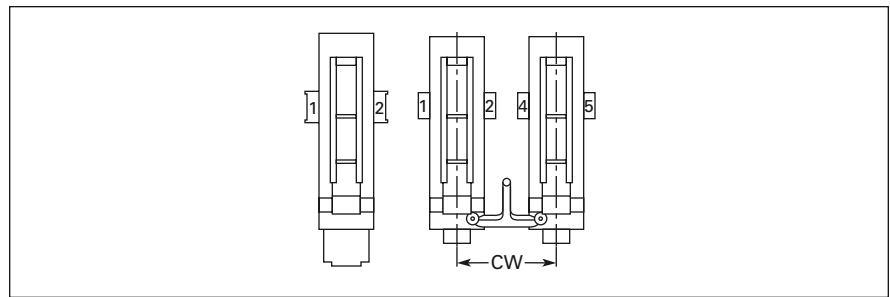

Figure 27. Control Circuit Contacts
① Mechanical interlocks not available for use with normally closed pole contactors.
② Dimension CW in Figure 27.